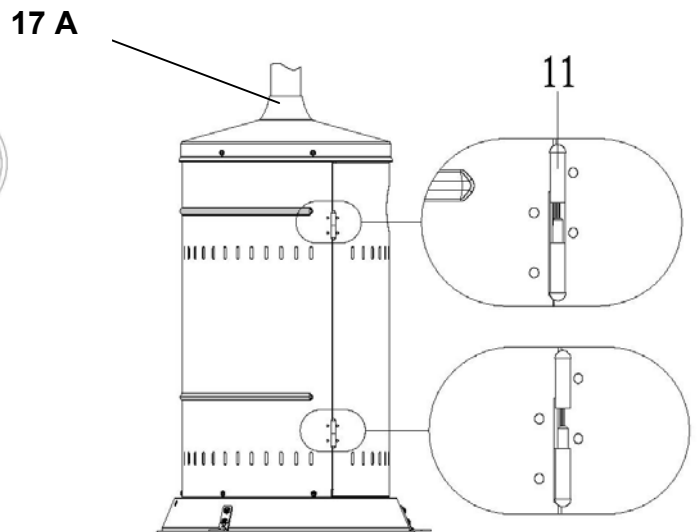

Figure 2
STEP 7: Fix the door to housing. (See Figure 2 and Detail Abb. G)